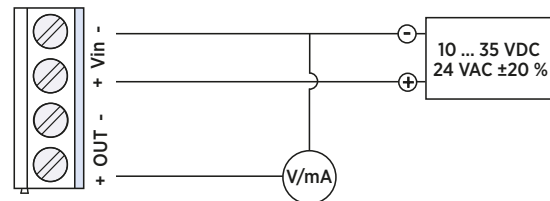

Figure 3 Wiring for 3-wire Output
- 3-wire output: see Figure 3 \(page 2\). Provide the required supply voltage according to the output type: